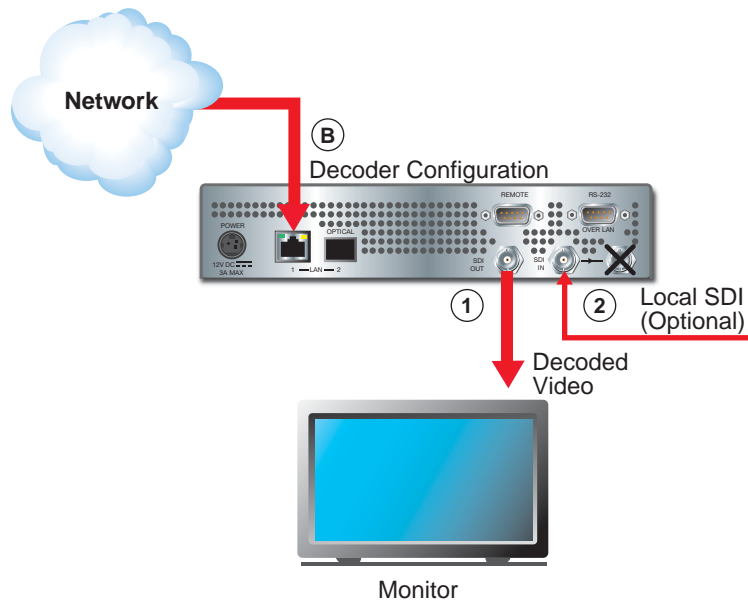

Figure 14. Video Connections in the Encoder Configuration
See figure 14.
- ① **SDI Out BNC connector** — Connect an SDI, HD-SDI, or 3G-SDI digital video device to display the digital video that was streamed to the decoder (item **B** on figure 14). The video output is in the same format as the originating source at the encoder. When no video streams are being decoded, this output can provide either a frozen image of the last received frame or a static splash screen. See “**Decoder Video Configuration Panel**” in the “Operation” section to configure the splash screen.
- ② **SDI In BNC connector** — If desired, connect a local SDI input of the same refresh rate as the streamed video to act as a digital genlock signal for synchronizing the decoder to a local standard.